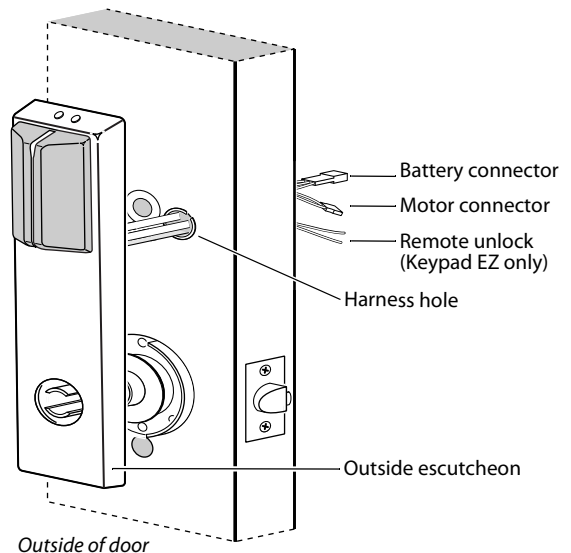

Figure 14 Feeding the wire harness connectors through the harness hole (Offline G/V Series Lock shown)
- 1 From the outside of the door, feed the motor connector, battery connector, and Keypad EZ remote unlock wires through the harness hole one at a time, as shown in Figure 14.